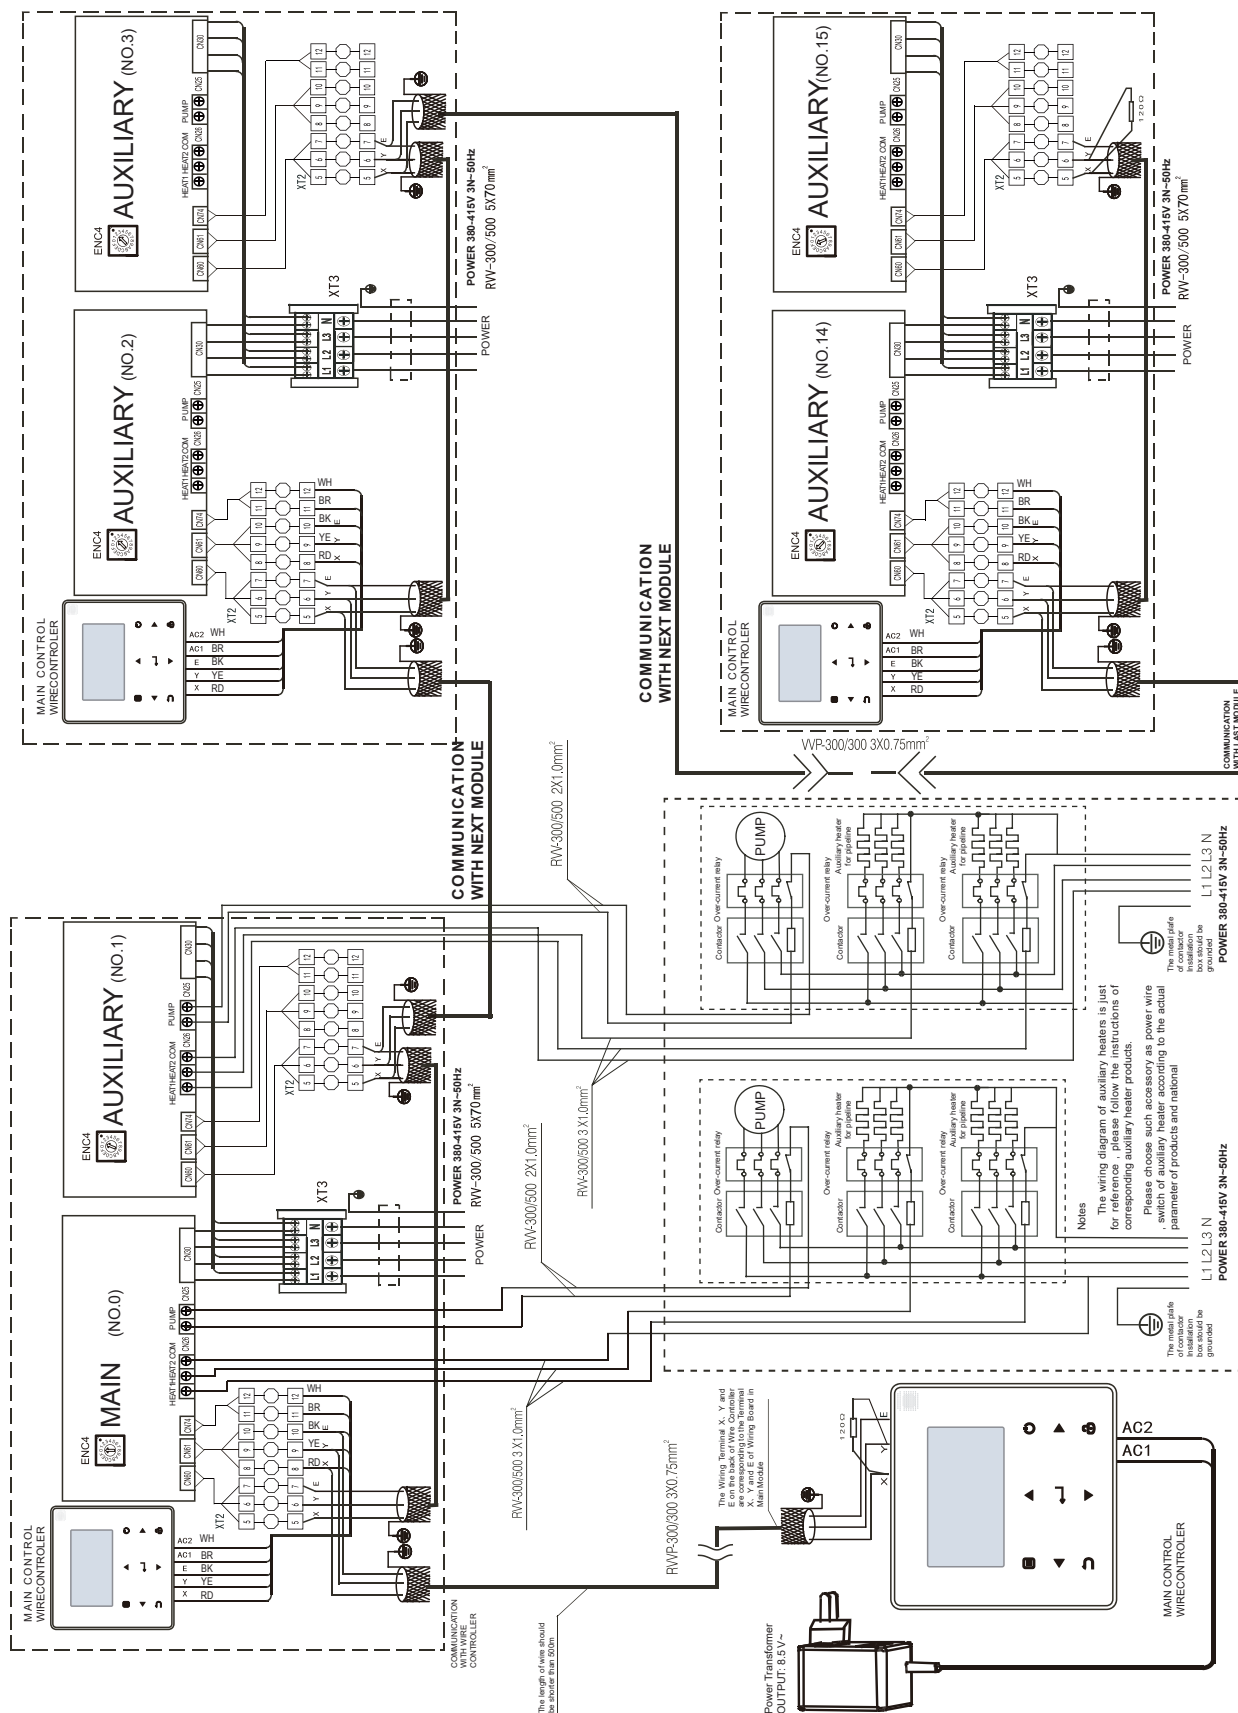

Fig. 8-28 Networking communication schematic of main unit and auxiliary unit for KEM-180 DRS5 KH
- c) The inlet pipe of the evaporator must be provided with a target flow controller, to realize flow-break protection for the unit. Both ends of the target flow controller must be supplied with horizontal straight pipe sections whose diameter is 5 times that of the inlet pipe. The target flow controller must be installed in strict accordance with "Installation & Regulation Guide for Target Flow Controller" (Fig.8-28, 8-29). The wires of the target flow controller should be led to the electric cabinet through shielded cable (see Electric Controlling Schematic Diagram for details). The working pressure of the target flow controller is 1.0MPa, and its interface is 1 inch in diameter. After the pipelines are installed, the target flow controller will be set properly according to the rated water flow of the unit.